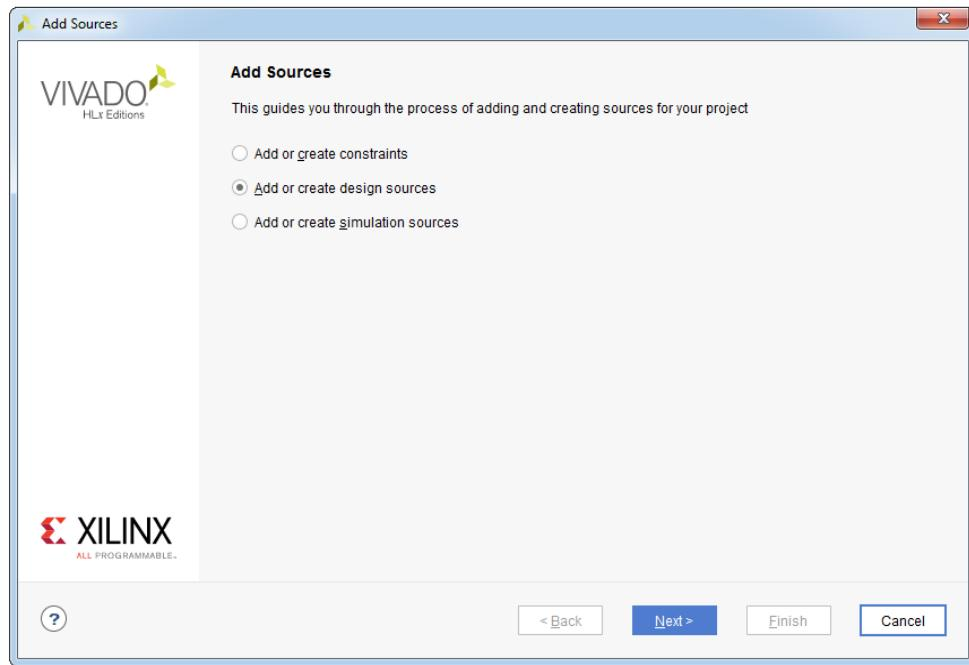

Figure 2.13: Add Sources dialog box
2. In the **Add Sources** dialog box, select **Add or create design sources** option to create the design source files in the project, see Figure 2.13.